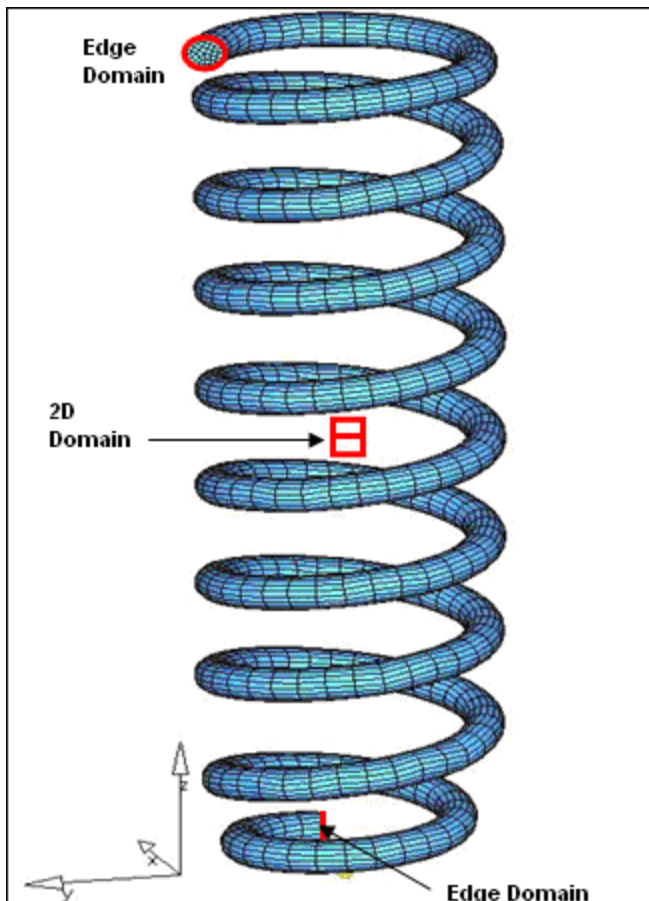

Figure 2: Domains to select for altering the gauge radius
10. For **domains** (under **edge and 2D**) select the **2D domain** and the **two edge domains** as shown in Figure 2.